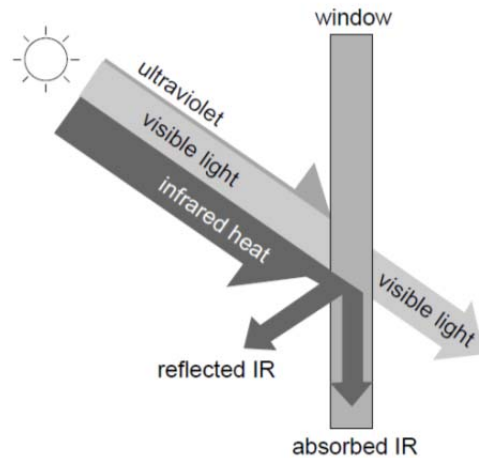

Figure 18: An ideally spectrally selected glazing admits only the part of the sun’s energy that is useful for daylighting.
- **Ultraviolet Transmittance** indicates the percentage of ultraviolet radiation (a small portion of the sun's energy) striking the glazing that passes through. Ultraviolet radiation (UV) is responsible for sunburn of people and plants, and it contributes to fabric fading and damage to artwork. Many energy-efficient glazings also help reduce UV transmission.
- **Spectral Selectivity** refers to the ability of a glazing material to respond differently to different wavelengths of solar energy; in other words, to admit visible light while rejecting unwanted invisible infrared heat (Figure 18). Newer products on the market have achieved this characteristic, permitting much clearer glass than previously available for solar control glazings. A glazing with a relatively high visible transmittance and a low solar heat gain coefficient roughly indicates that a glazing is selective. Spectrally selective glazings use special absorbing tints or coatings, and are typically either neutral in color or have a blue or blue-green appearance.